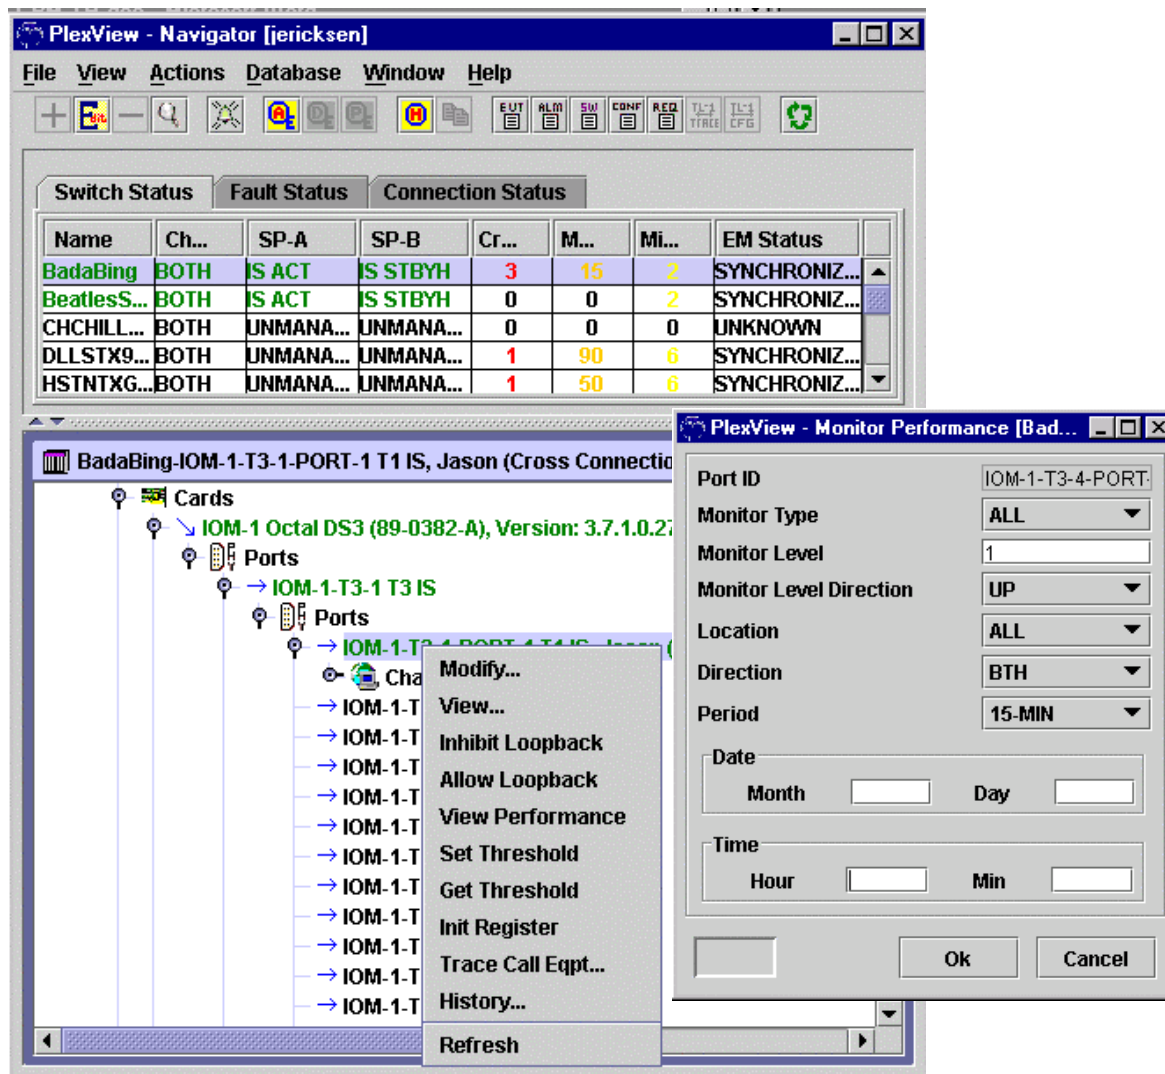
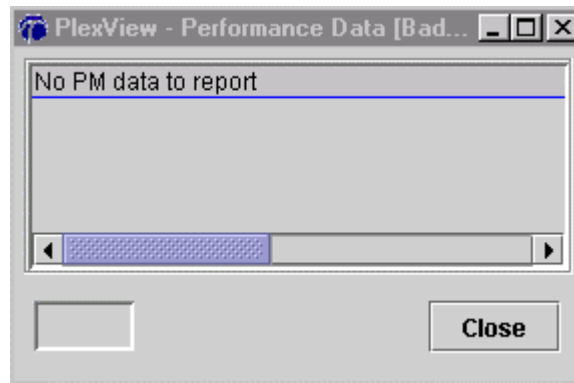

Figure 1. Monitor T1 Performance
Figure 2. Performance Data
4. Retrieve current and historical performance data related to T1s. Double-click *Switch*, *Switch name*, *Cards*, desired *IOM*, *Ports*, desired port, and *Ports*. Right-click desired port, select *View Performance*. Make changes if necessary and then click *Ok*. See Figure 1. After clicking *Ok*, you will see a screen similar to Figure 2. Reference DLP-537 for detailed information for the command.